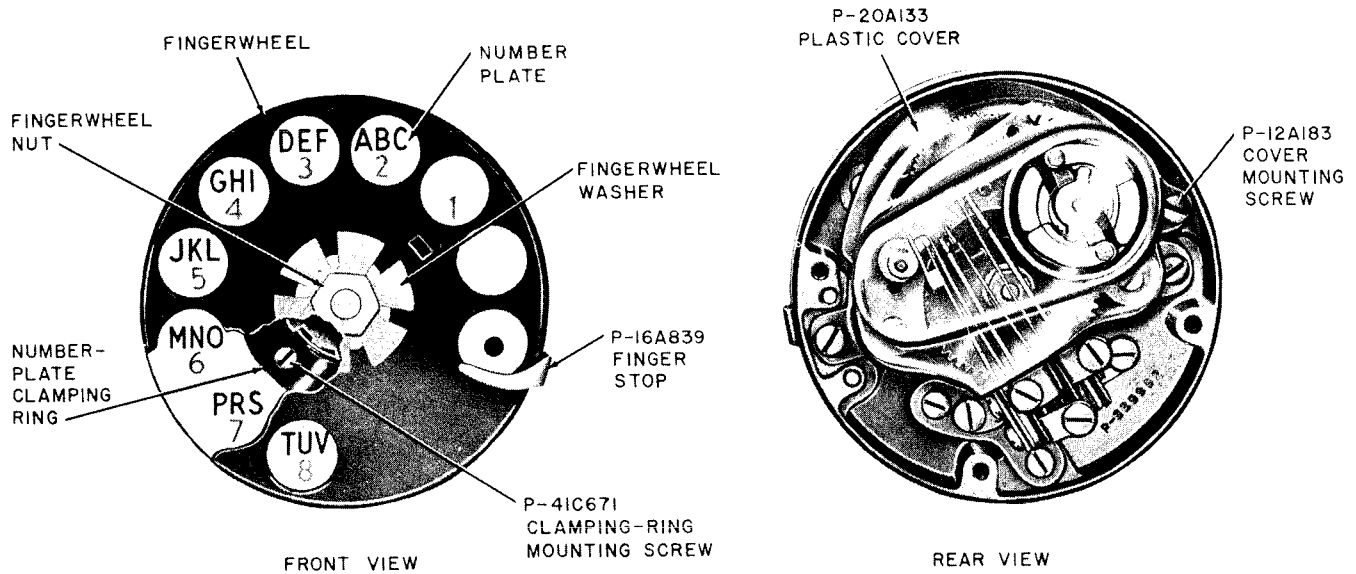

Fig. 4 — 6-Type Dial
2.03 See Tables C and D and Fig. 4 for usage and assembly of parts.